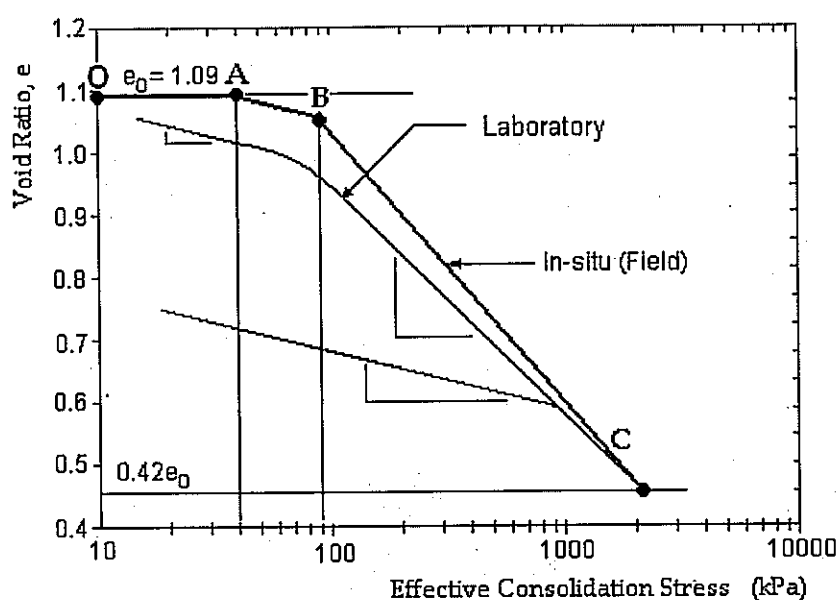

Figure Q2
2. Figure Q2 shows a plot of void ratio versus effective consolidation stress, for a soil specimen representative of a compressible soil stratum. The in-situ (field) compression curve is OABC.